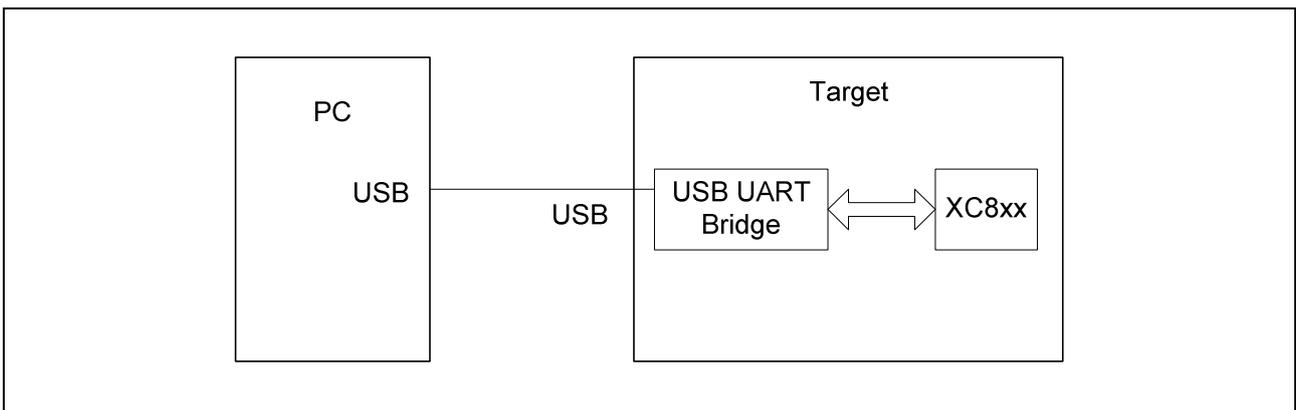

Figure 3 The connection between a PC and a target system with USB-UART Bridge Controller (e.g., Silicon Labs CP2102) for UART BSL programming.
- Figure 3 shows the connection between a PC and a target system with USB-UART bridge controller (e.g. Silicon Labs CP2102) for UART BSL programming. In this case, the USB-UART bridge controller will convert the USB signal to UART signal and therefore FLOAD can use UART BSL for programming.